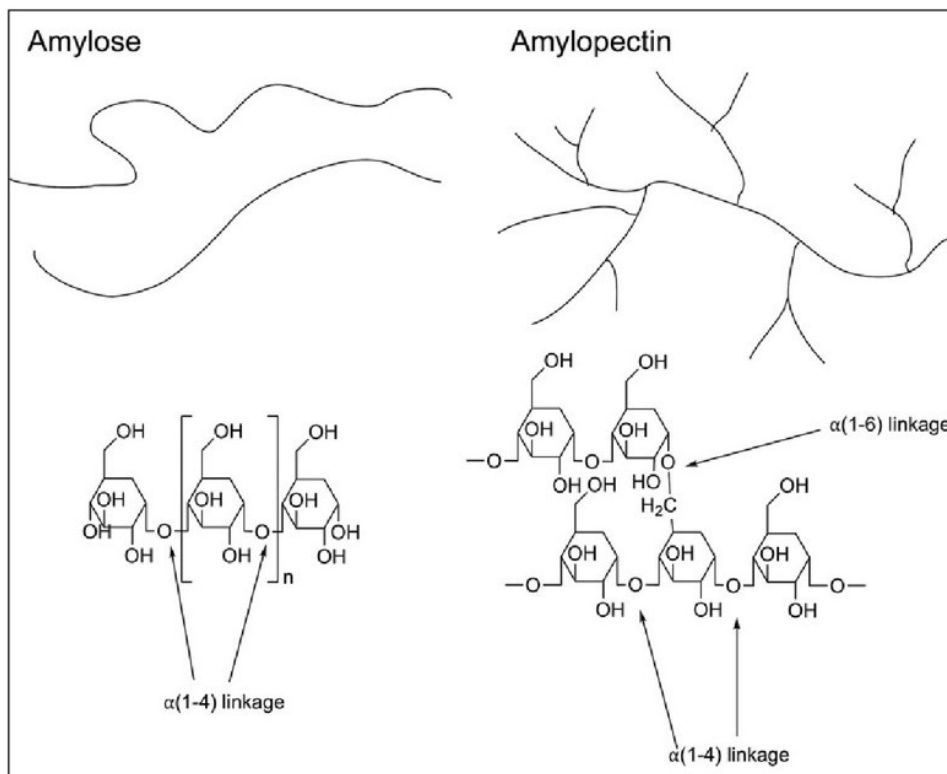

Figure 6 – Starches
Joining glucose units so that carbon atoms 1 and 6 are close together (1-6 linkage) gives an amylopectin starch. An amylose starch resembles a linear chain. An amylopectin type starch resembles a complex branched structure. Figure 6 illustrates these starch types. (6) About 1/3 of starches in Nature are amyloses and 2/3 are amylopectins. In the mashing process, the heat imparted to the mash during heating will, over an extended period of time, break down the linkages between glucose molecules in the starch. But, brewers and distillers do not have infinite amounts of time. Thankfully, Mother Nature has provided enzymes which lower the activation energy, which allows the heat energy to break the linkages quicker. Starches will break down (hydrolyze) into glucose, maltose, maltotriose, as well as more complex structures called dextrans. A maltose is two glucose units attached together. A maltotriose is three glucose units together. In a fruit and molasses, Mother Nature has made use of glucose and a close structural